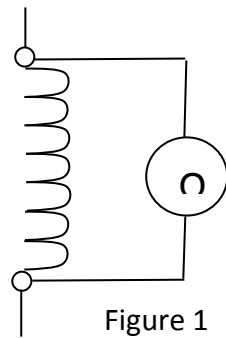

Figure 1
2. Connect the circuit as shown in Figure 1 and measure the resistance.